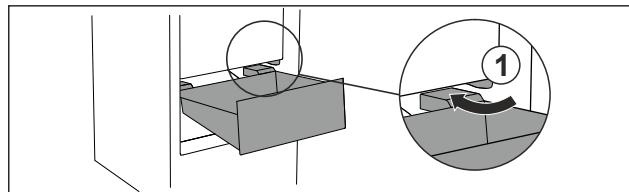

Fig. 92
- ▶ Guide drawer in at an angle around the stoppers Fig. 92 (1).